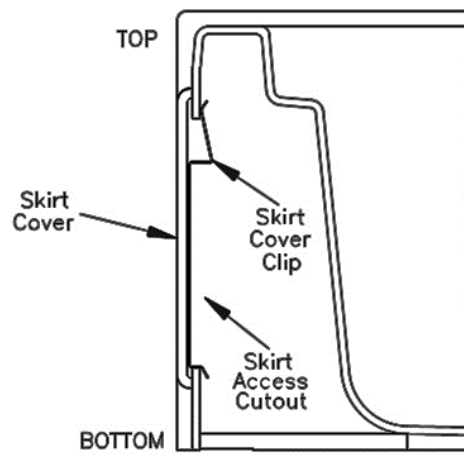

Figure 1
- Gently pull the skirt cover out and down away from the skirt cover access cutouts only far enough to clear the access cutouts. The skirt cover will completely disengage itself from the bath giving access to the motor and/or blower and the control. **See Figures 1 and 2.**
- Gently push the bottom of the skirt cover in and down until the bottom of the skirt cover clip engages the bottom of the skirt access cutouts. **See Figures 1 and 3.**